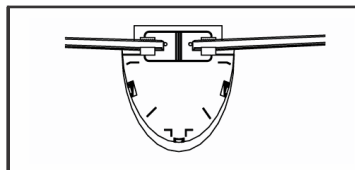

Fig. 34
- In most size pools, the four 39" bottom wall rims are for the "corners." One side snaps into the straight side connector on the final straight side upright, while the other side slides into a bottom plate or bottom cuff as shown in Fig.33 or Fig.34.